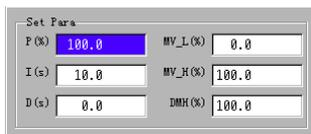

Figure 6-10 PID Parameters Tuning Box
2. Press to pop up the PID parameters tuning box, as shown in Figure 6-10.